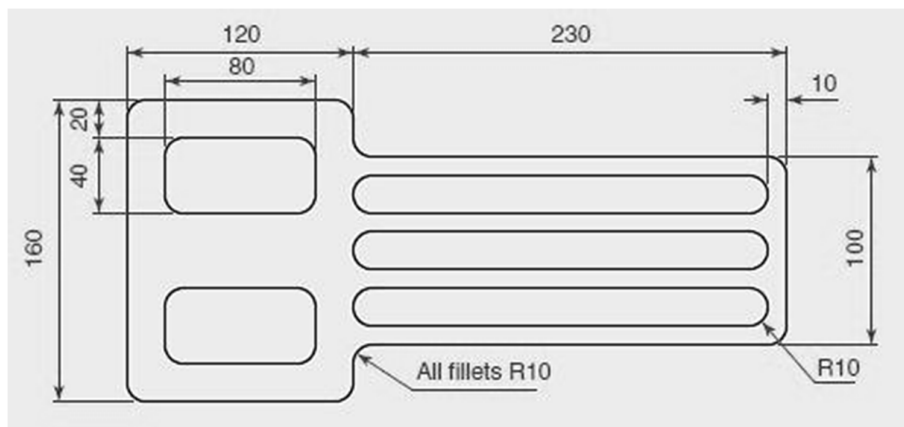

Figure Q4d(i)
- Figure Q4d(i) **(6 Marks)**
ii. Figure Q4d(ii)